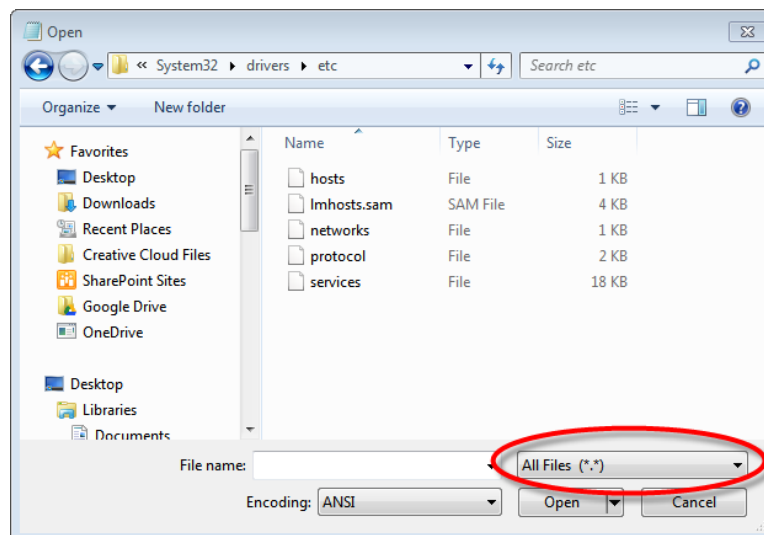

Figure 63: Contents of etc Folder
**Note** If the hosts file does not appear in the etc folder, in the lower right corner of the Open dialog box, select All Files (\*.\*), which is circled in Figure 63.